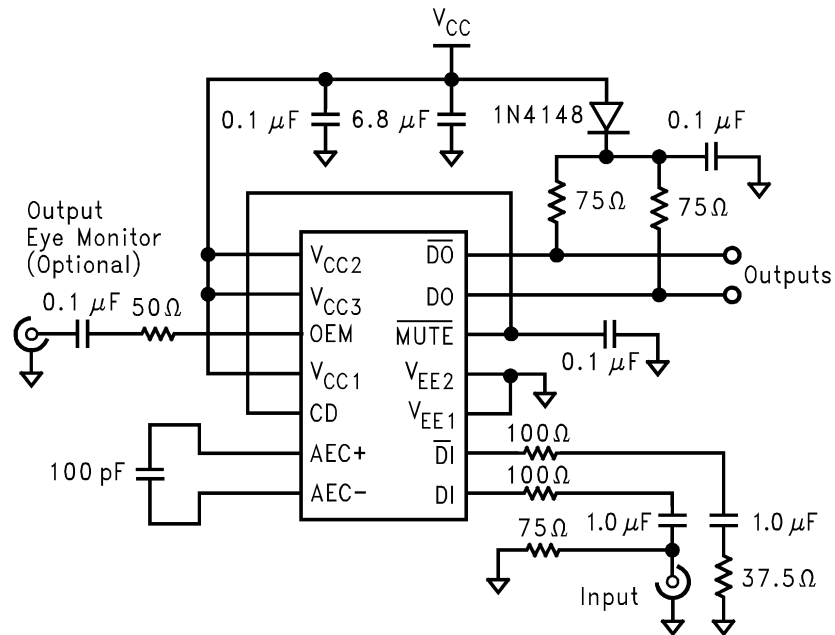

Figure 17. CLC014 Equalizer Application Circuit
Carrier Detect (CD) is a CMOS output that indicates the presence of equalized data from the filter. This CD output can be connected to $\overline{\text{MUTE}}$ to suspend changes in the data outputs DO and $\overline{\text{DO}}$, if no valid signal exists. This simple configuration prevents random output transitions due to noise. For sparse transition patterns it is recommended that a capacitor be connected to CD as shown in Figure 17.
The OEM is a high-speed, buffered output for monitoring the equalized eye pattern prior to the output comparator. Its output is designed to drive an AC-coupled 50Ω coaxial cable with a series 50Ω backmatch resistor. The cable should be terminated with 50Ω at the oscilloscope. Figure 17 shows a schematic with a typical connection.
The CLC014 operates from either +5V or –5.2V single supplies. Refer to Figure 17 when operating the part from +5V. When operating with a –5.2V supply, the V_{EE} pins should be bypassed to ground. The evaluation board and associated literature provide for operation from either supply.